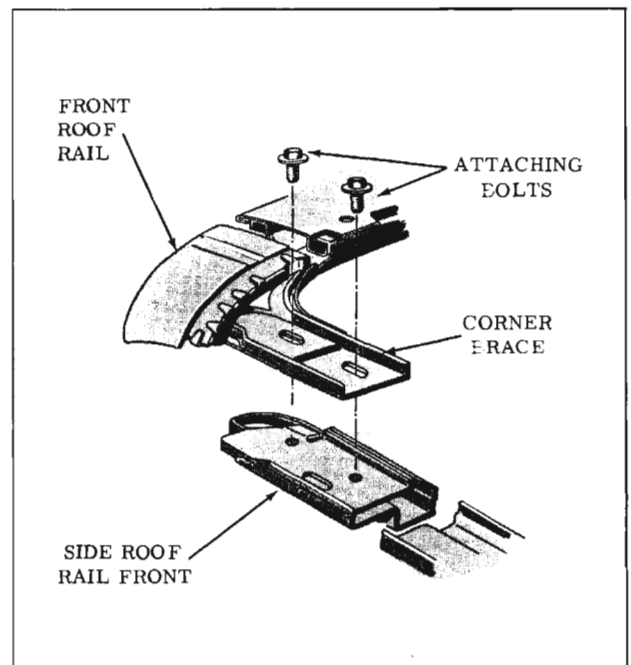

Fig. 16-104 Front Roof Rail Adjustment
2. Loosen corner brace attaching bolts and adjust front roof rail fore or aft as required. Repeat on opposite side if necessary, (Fig. 16-104)